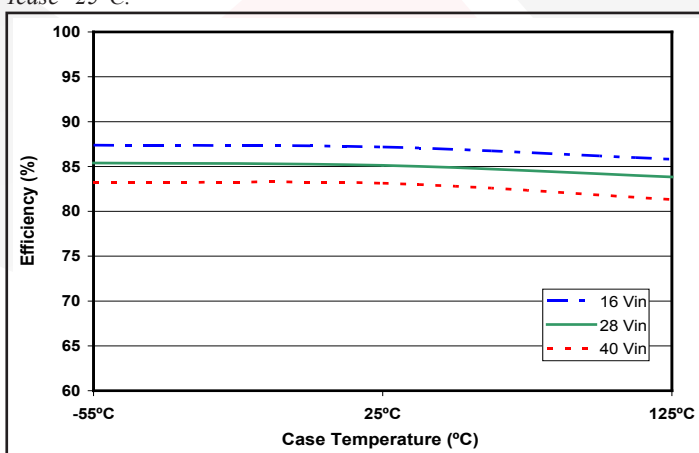

Figure 5: Efficiency at 60% load (0.99A load on +15V and 0.99A load on -15V) versus case temperature for $V_{in} = 16V, 28V$ and $40V$.
2. Derate output power for continuous operation per Figure 5.